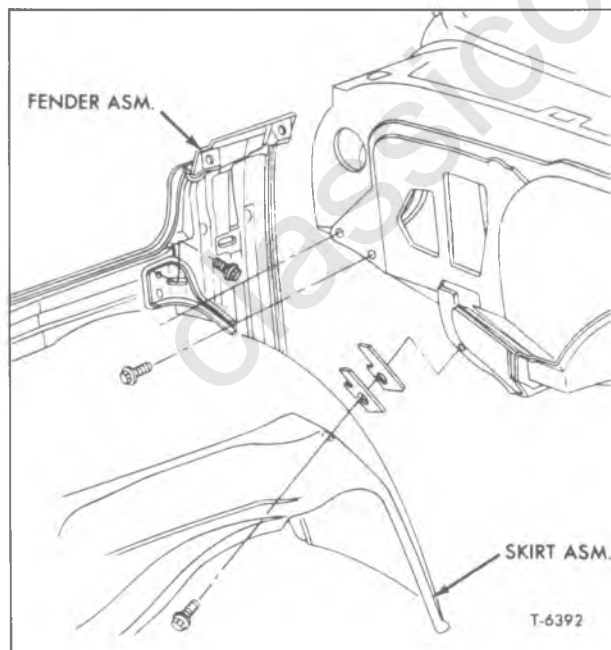

Figure 11—Fender Gusset-To-Cowl Attachment
11. Remove two screws (each side) attaching fender gusset to cowl (fig. 11).
(Refer to Figures 11 and 12)